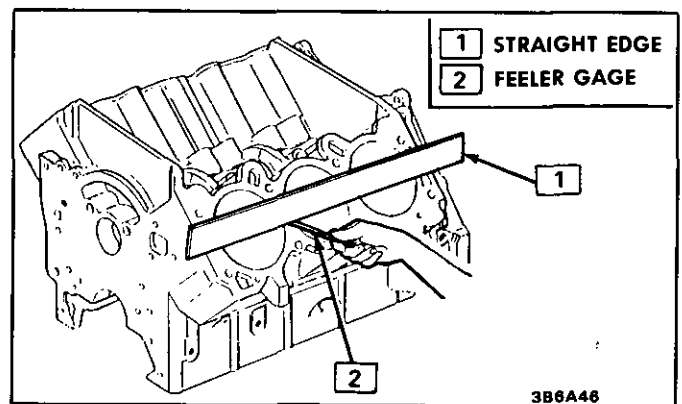

Figure 49 Checking Cylinder Block for Flatness
- Deck surface for flatness. Use a straight edge and a feeler gage (Figure 49). Minor irregularities may be carefully machined. If more than .25 mm (.010") gasoline V6, or .127 mm (.005") V8 must be removed, replace the block.